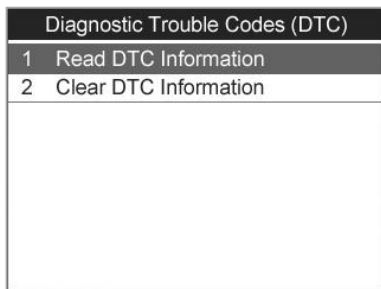

Figure 9.27
- 2) Use the **UP/DOWN** scroll button to select **Read DTC Information** and press the **OK** button (Figure 9.27).
- 2) Use the **UP/DOWN** scroll button to select **Clear DTC Information** and press the **OK** button (*Figure 9.27*).